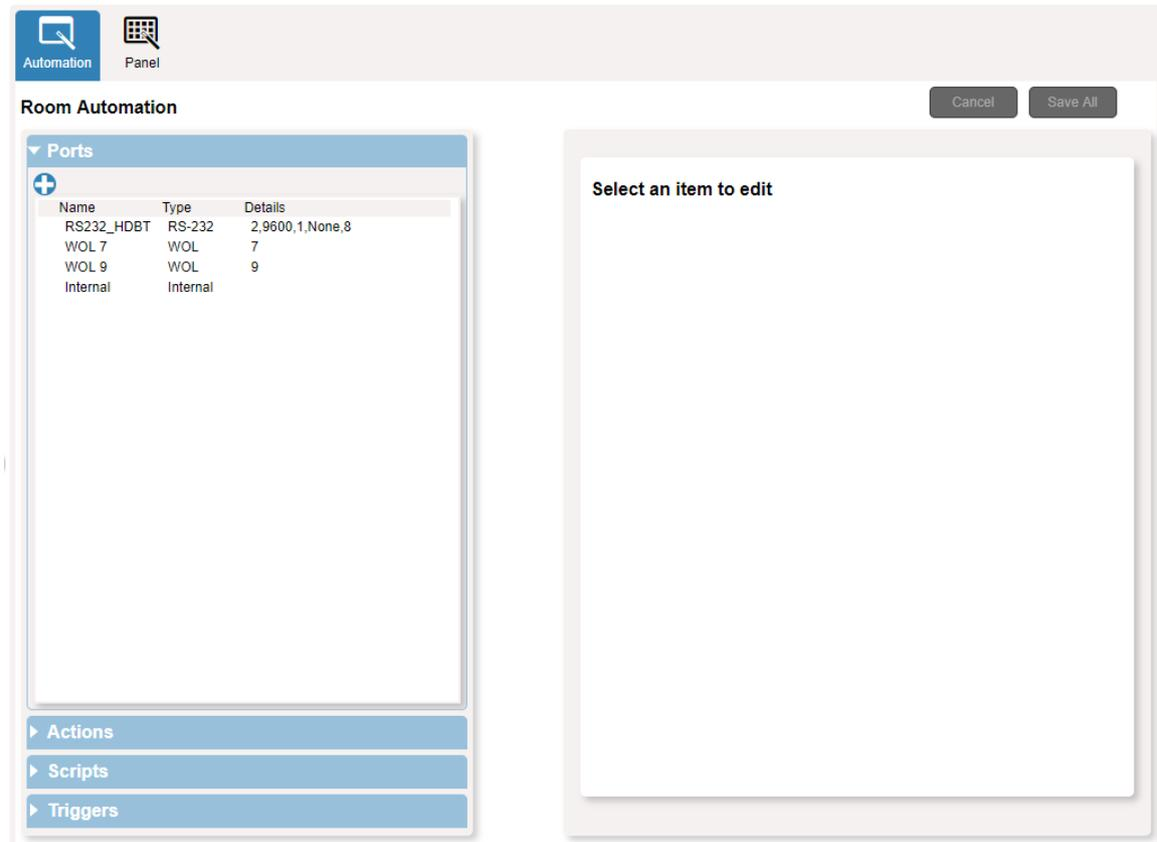

Figure 29: Automation Page
1. In the Navigation pane, click **Automation**. The Automation page appears (see Figure 29).
4. In the Navigation pane, click **Automation**. The Automation page appears (see Figure 29).